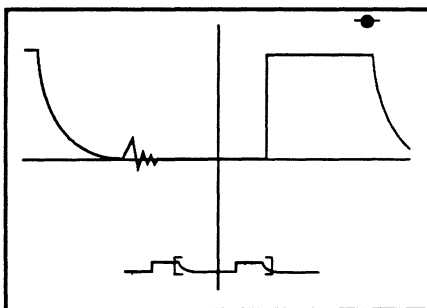

Figure 8 - Autocenter, Horizontal and Vertical Expansion all turned on.
7. Release the Vertical Expansion button when the new default setting reappears (Figure 8).
Figure 8 - When the vertically expanded waveform reappears, you can release the Vertical Expansion button. This is now the new vertical expansion default setting.
See Figures 8, 9 and 10 on the next page.